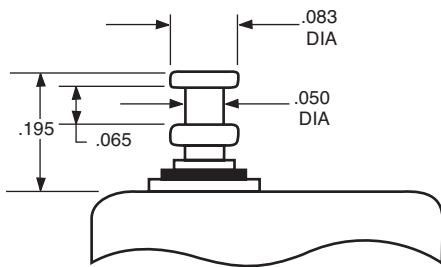

Figure 1. Standard Solder Terminal
**Standard Solder Terminal** - The standard solder terminal offered with switches is a gold plated, double turret terminal, as shown in Figure 1.